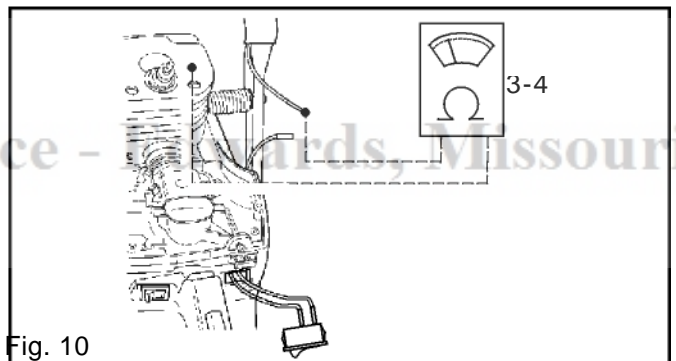

Fig. 10
5. Connect the ohmmeter as shown in fig. 10 and measure the resistance in the front handle heating element. The meter should read 3 - 4 . If the reading is higher , replace the front hand grip.